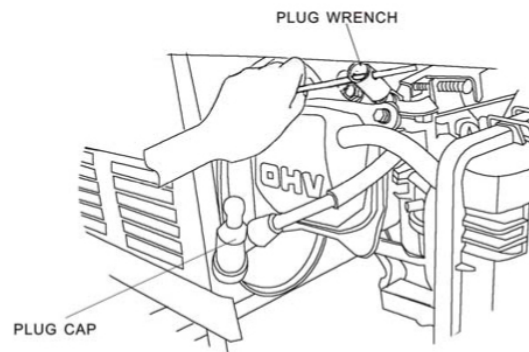

Figure 16 - Locating the Spark Plug
Please contact Customer Service if you have questions regarding the spark plug. (Figure 16)
- Disconnect the spark plug. (See Figure 16, Locating the spark plug.)